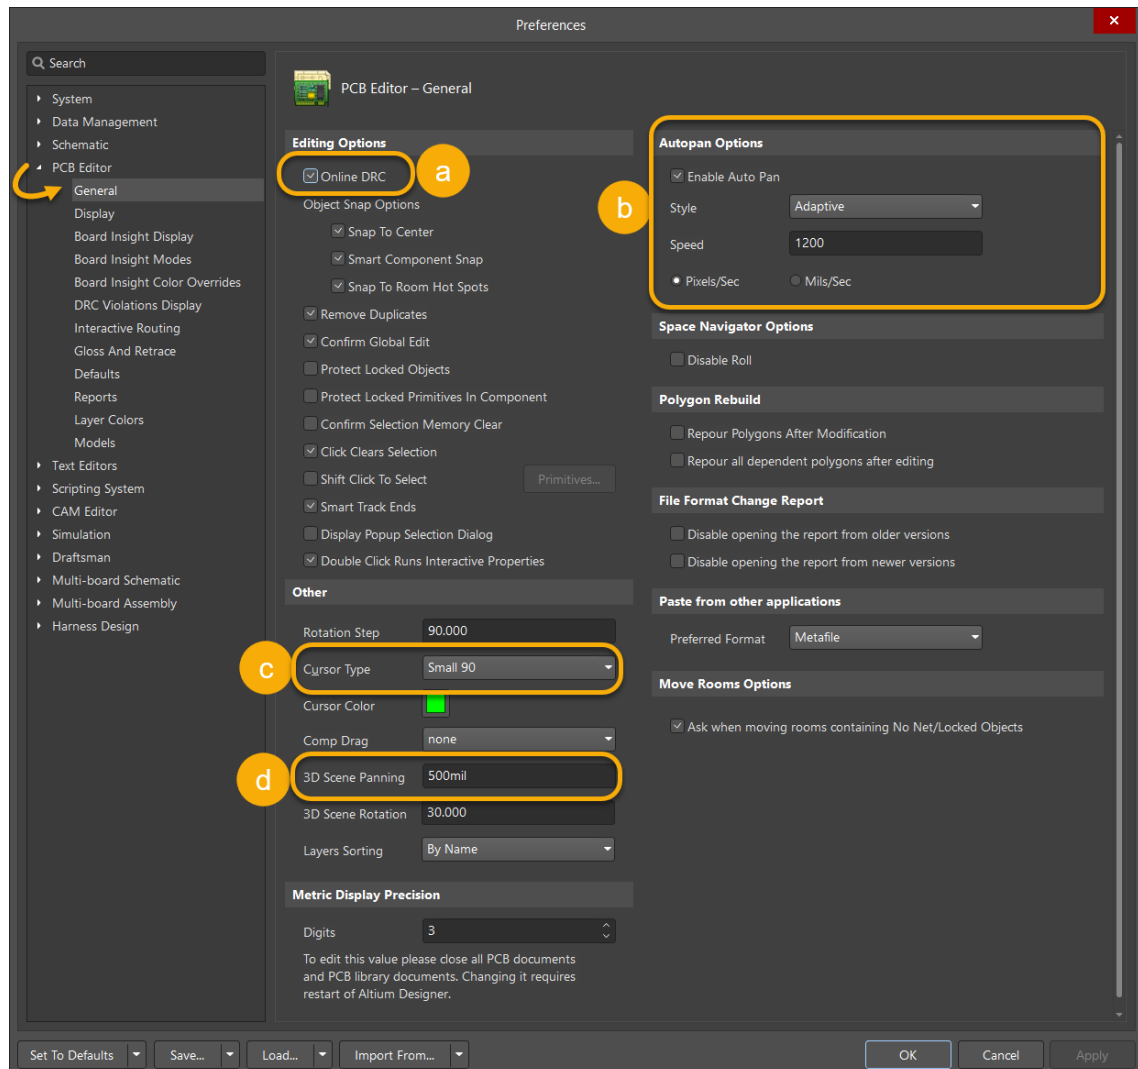

Figure 8. General Preferences for the PCB Editor
25. Click the  in the upper right corner, to open the *Preferences*. Open the *PCB Editor* branch and open the *General* page as shown in Figure 8 below.